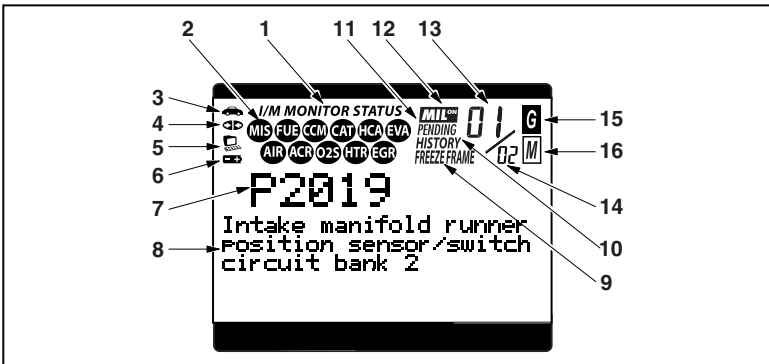

Figure 2. Display Functions
See Figure 2 for the locations of items 1 through 16, following.